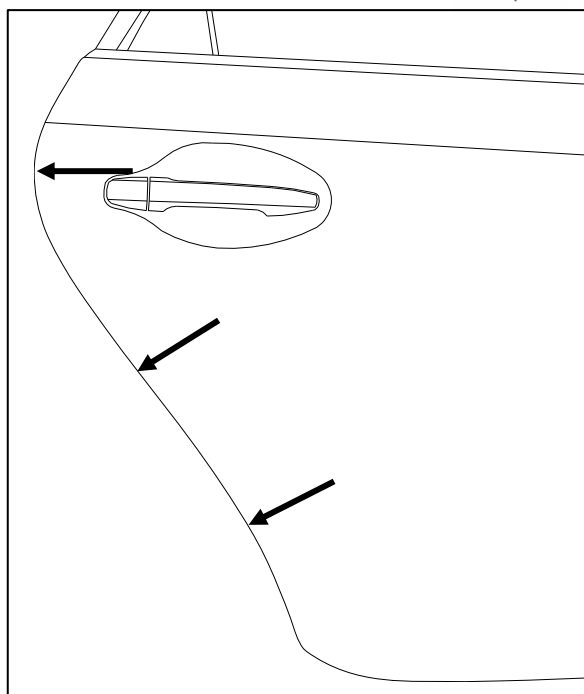

Fig. 1-1
- (a) Open rear passenger door and clean and dry trailing edge of door as needed with distilled water and lint free towel. (Fig. 1-1)